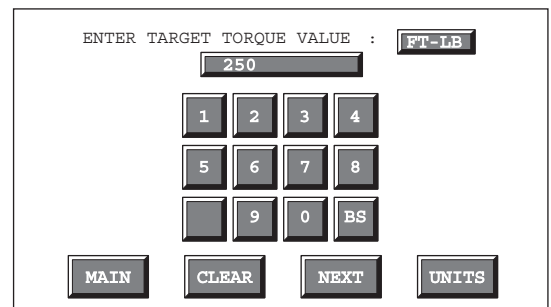

Figure 7: Target Torque Value screen
- 5b. Press the CHANGE button next to TGT TORQUE to enter the Target Torque Value and Units desired (Figure 7).